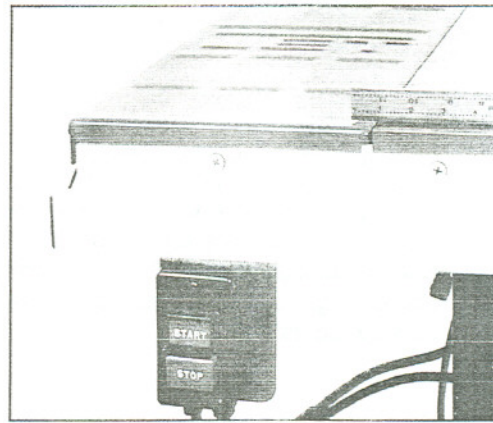

Fig. 9
9. Use the straight edge to level the inside edge of the extension wing to the table (Fig. 9). Tighten the three hex bolts that hold the wing to the table.